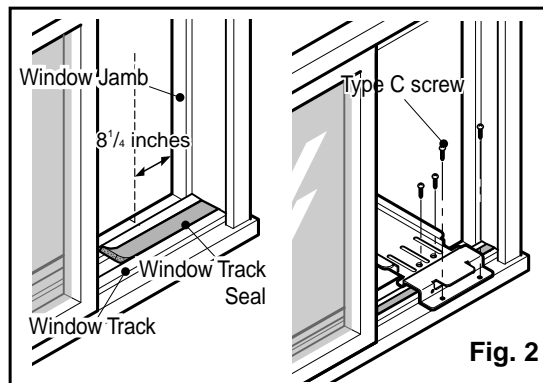

Fig. 2
2. Remove protective backing from Window Track Seal and apply seal to window track. (Fig.2)
3. Measure and lightly mark a line 8-1/4 inches from window jamb. Center the Support Bracket assembly on the window track and fasten with 4 Type C screws.(Fig. 2)